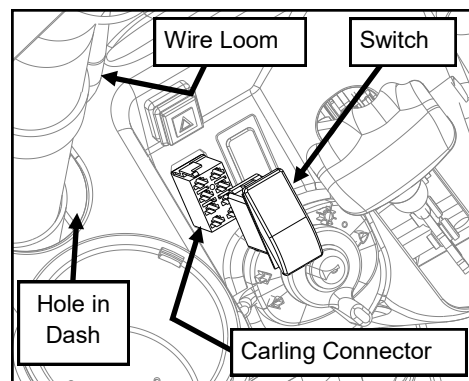

Fig. 2.A
3. Open vehicle hood. From under the hood, route the Carling 8-pin connector (on provided wiring harness) through the rectangular cut-out in the vehicle dashboard. Plug the Carling connector into the back of the switch. Snap switch into dashboard. (See Figure 2.A).
5. Route long section of harness up through the hole in the dash at the driver's side front ROPS tube (See Figure 2.A).
4. Feed the short section of harness down through the hole in the dash at the driver's side front ROPS tube (See Figure 2.A) and connect to the fuse block. See switch panel installation instructions for proper wiring locations.